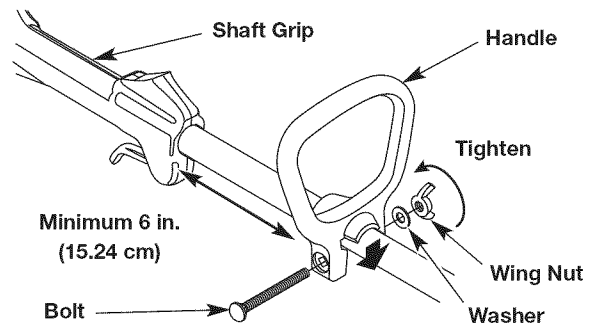

Fig. 2
2. Push the handle down onto the shaft housing (Fig. 2). The square bolt hole in the handle should be to the right.
3. Insert the bolt into the square bolt hole and push it through (Fig. 2). Place the washer onto the bolt. Screw the wing nut onto the bolt, but do not tighten the wing nut completely.
4. While holding the unit in the operating position, move the handle to the location that provides the best grip. Place it a minimum of 6 inches (15.24 cm) from the end of the shaft grip (Fig. 2).
1. Loosen the wing nut (Fig. 2).
2. While holding the unit in the operating position, move the handle to the location that provides the best grip. Place it a minimum of 6 inches (15.24 cm) from the end of the shaft grip (Fig. 2).